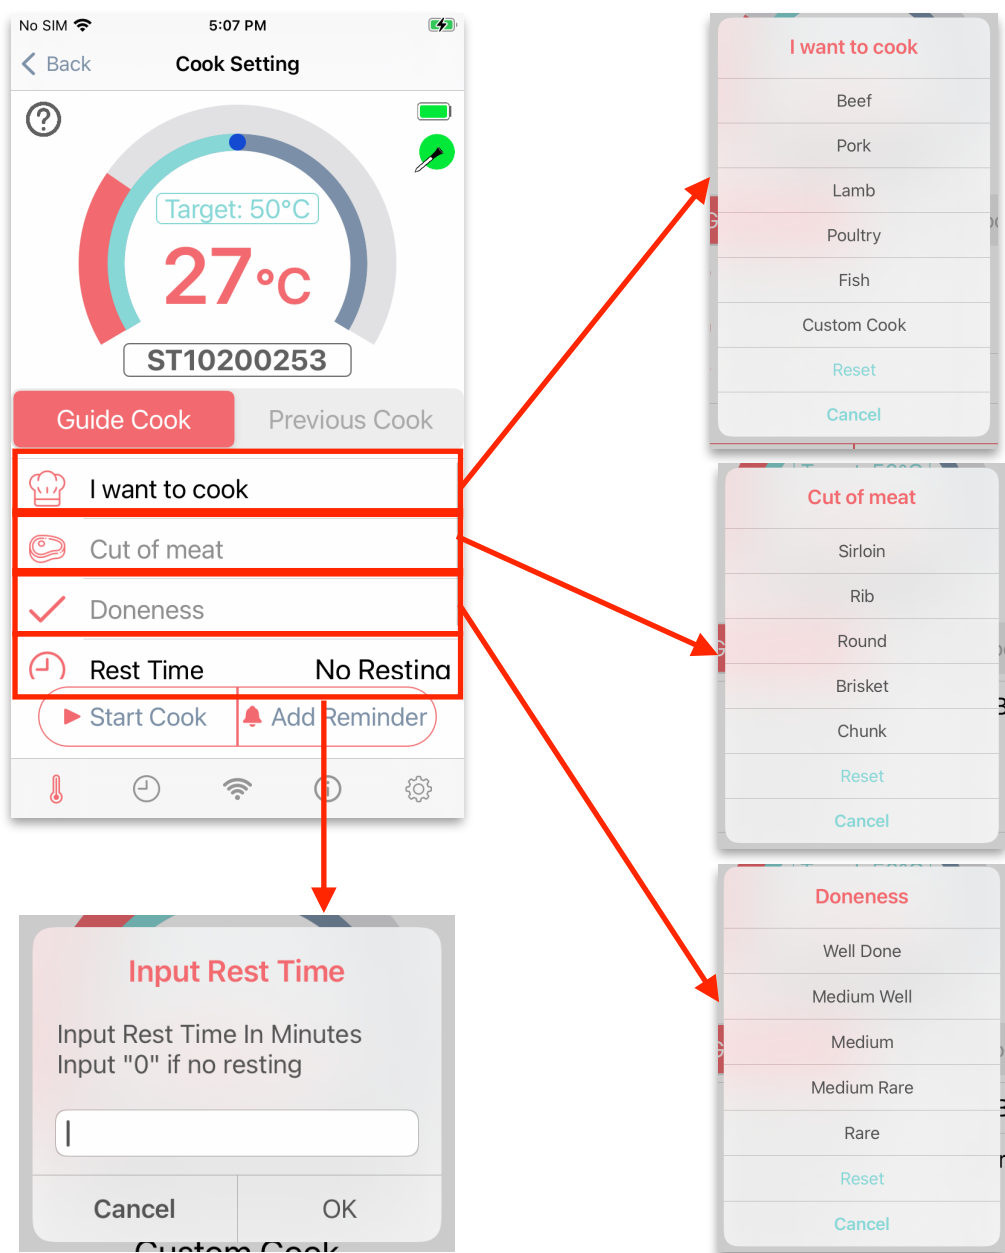

Figure 7. Guide Cook Setup
2. Tap the area of the information of the probe on the “Available Probes” screen, the “Cook Setup” screen will be shown in Figure 7.
3. Choose type of meat by tapping “I want to cook” once and then select the meat type. (see Figure 7)
4. Choose cut of meat to cook by tapping “Cut of meat” once and then select the cut of meat. (see Figure 7)
5. Choose the doneness by tapping “Doneness” once and then select the desirable doneness. (see Figure 7)